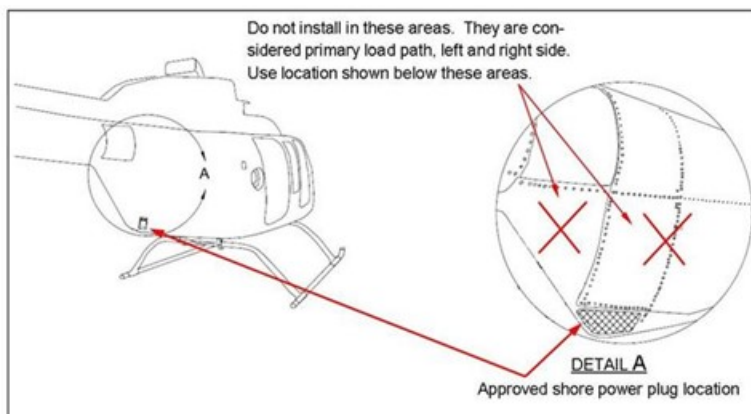

Figure 3.1. Locate door Kit TD03095 or alternate TD02840 in lower aft fairing, Detail A.
1. Position doublers on panel parallel with rivet lines or level doublers with ground. Verify coring edge distance for inner cutaways at longerons is maintained. Refer to Figures 3.1, through 3.3.